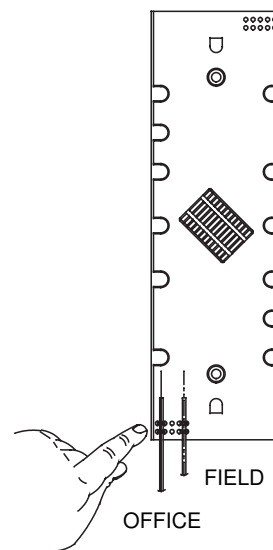

FIGURE 22 - MARK BUFFER TUBES JUST BEYOND TIE-DOWN HOLES
- 12.04** Route the buffer tube(s) for this splice tray (office and field) into the corner of the splice tray with the tie-down holes and mark the buffer tubes just beyond the tie-down holes (Figure 22).